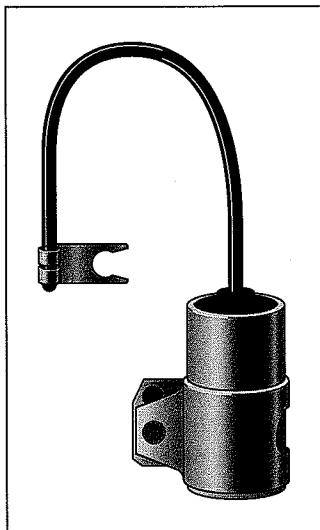

Figure 5-17:
- ⚡ The condenser (shown in Figure 5-17) is an electrical “sponge” that keeps the points from burning up. This small metal cylinder prevents the electricity from arcing across the gap when the points are open, which would cause the points to burn. Condensers should be replaced periodically, along with the points and rotor. Chapter 12 shows you how to do so.